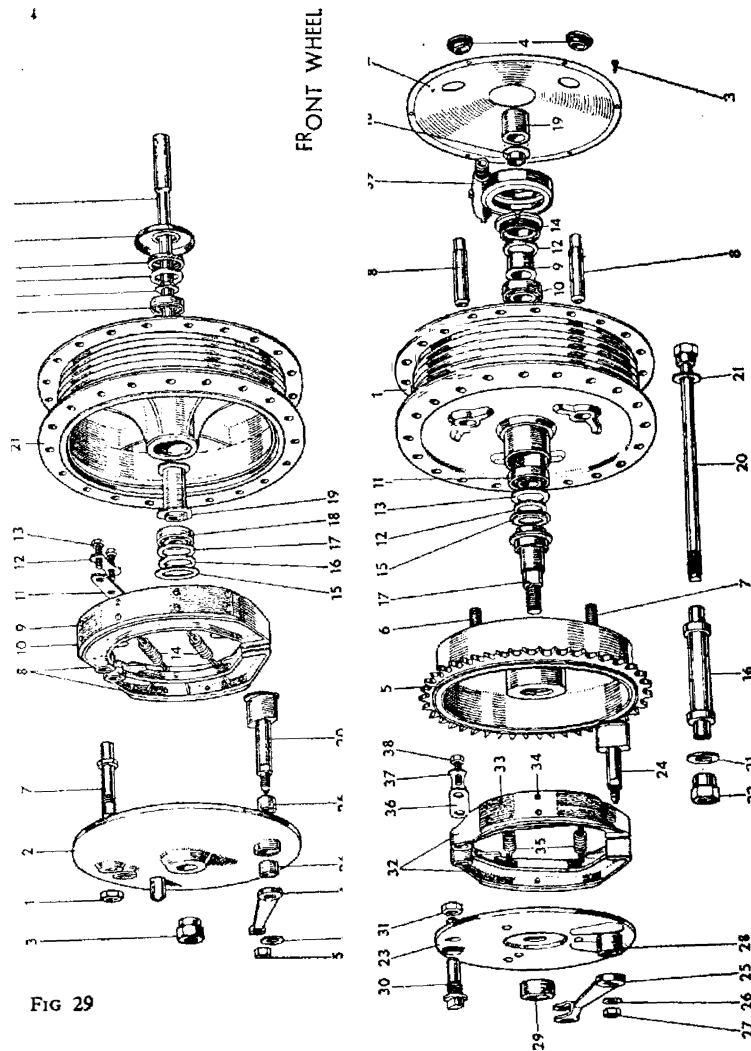

FIG 29
**Assembling the hub.** Deal with the bearings as already described and assemble by first fitting the single row bearing, in the reverse order described for dismantling, with the following precautions: when tightening the *lefthand* lock ring avoid damage to the slots for the speedometer drive. Finally "peen" the hub dished washer to the hub. The hub assembly sequence is shown in Fig. 29.